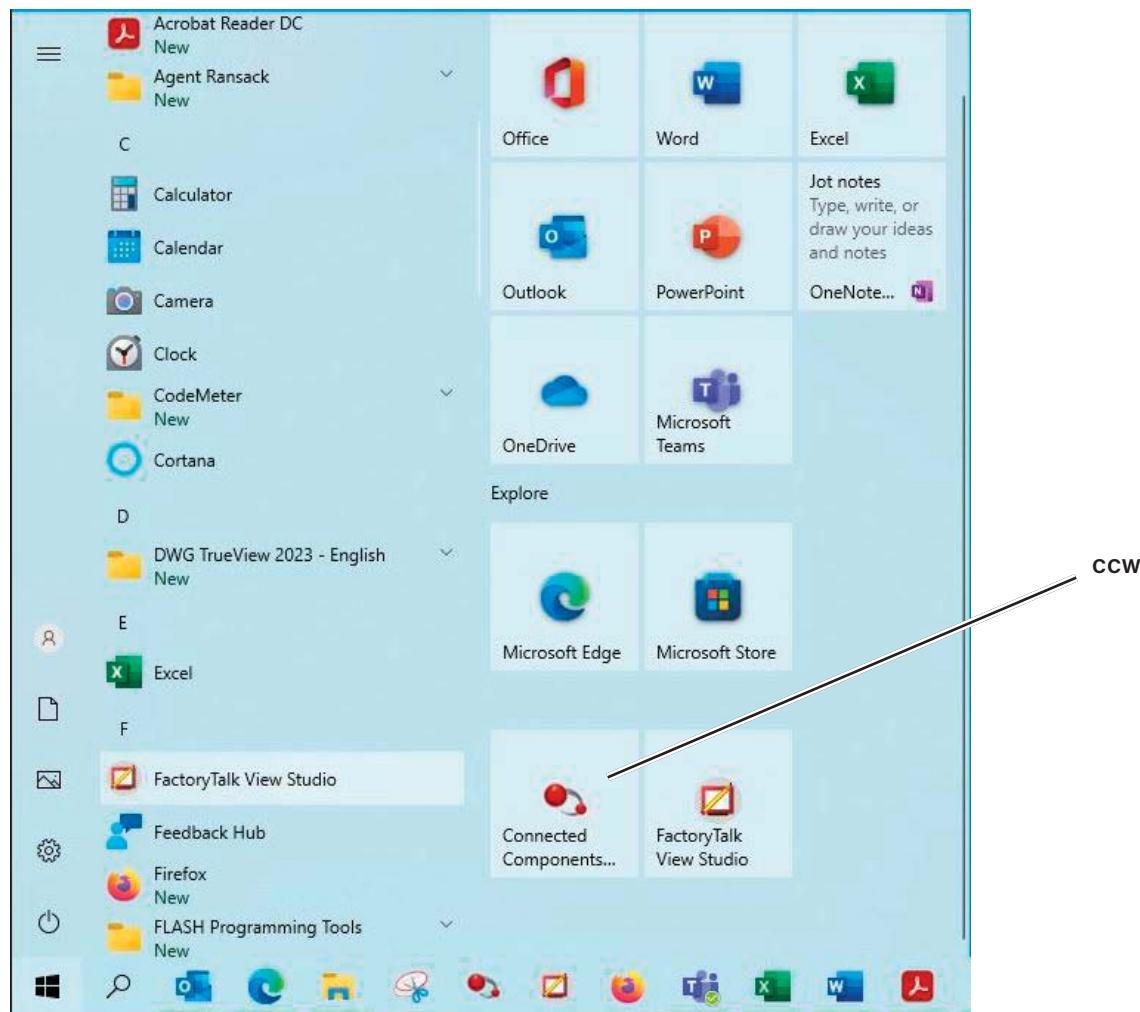

Figure 1-18. Connected Components Workstation (CCW)
B. Click on the CCW icon from the Windows Start menu as seen in figure 1-18.